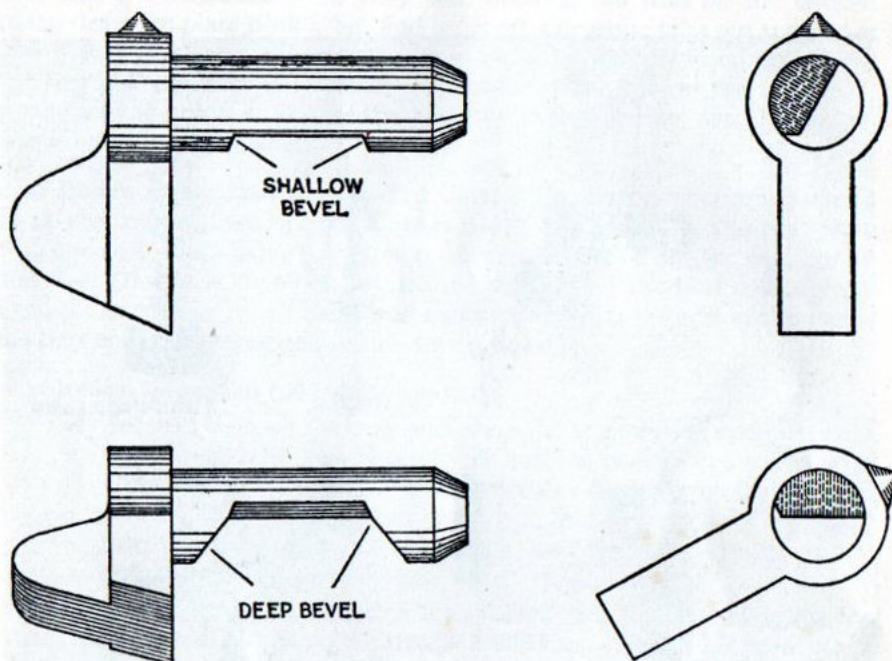

Fig 26.—The change lever
1. **General.**—The change lever has a deep and a shallow bevel in its stem; as you move the change lever, you alter the position of the tripping lever, and so control the trigger action (see Fig 26).